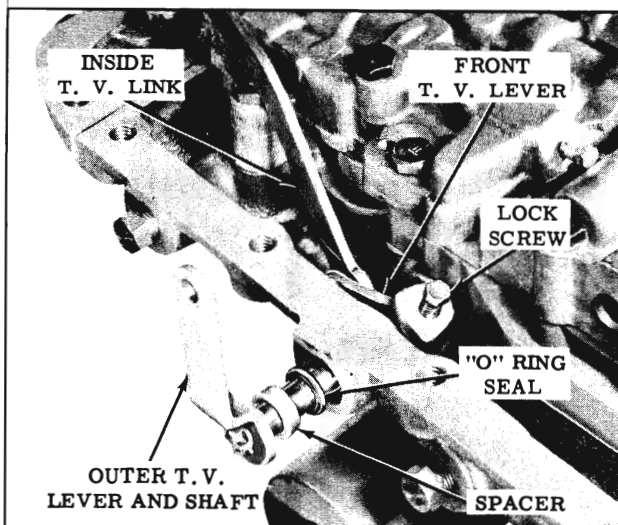

Fig. 3-225 Removing Outer T.V. Lever "O" Ring
8. Remove outer T.V. lever, "O" ring and spacer as shown. (Fig. 3-225)